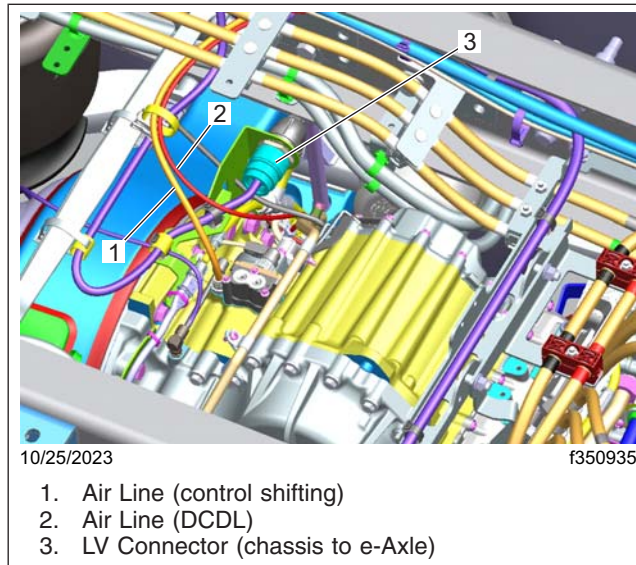

Fig. 2, Location of the LV Connector
- Disconnect the low-voltage (LV) chassis harness from the e-Axle. See **Fig. 2**.
17. Disconnect the air lines, shown in **Fig. 2** (See page 8), from the eCarrier.
49. Connect the air lines, shown in **Fig. 2**, (See page 8) to the eCarrier.
50. Connect the LV chassis harness, shown in **Fig. 2**, (See page 8) to the e-Axle